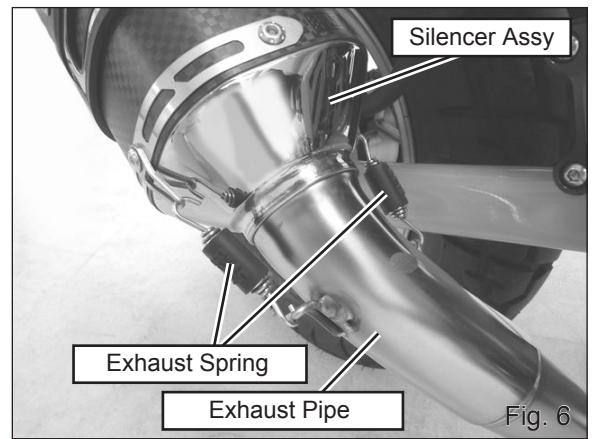

Fig. 6
- 5) Install Silencer Assy to Exhaust Pipe. Then, fix them with 2 of Exhaust Spring (See Fig. 6).